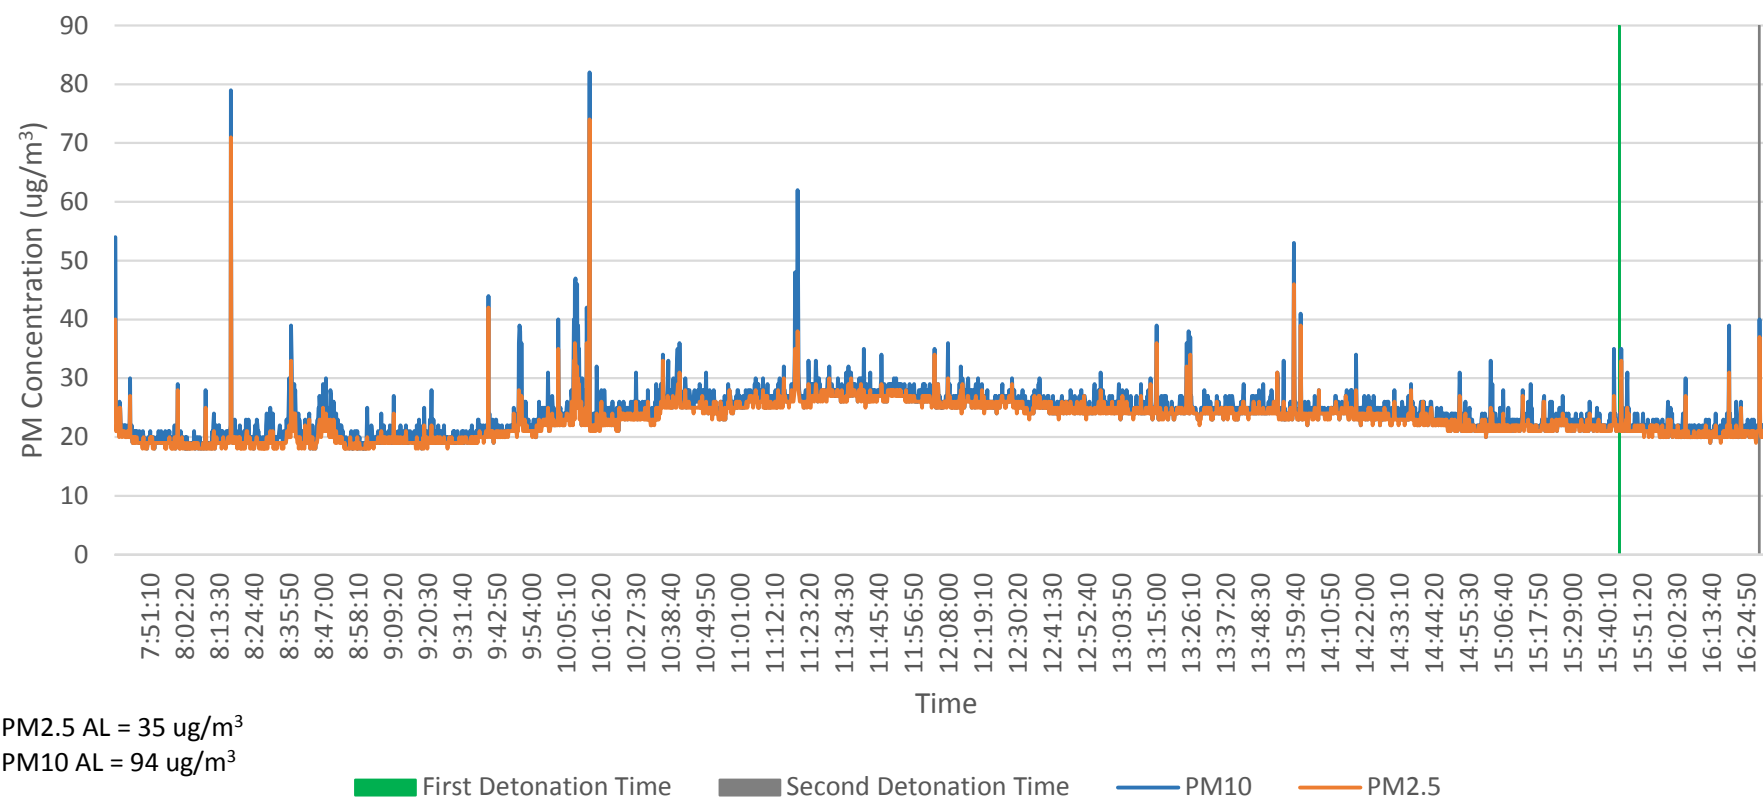

Figure 3-9. PM2.5 and PM10 on 8/10/17 at the Fence Line Boundary Monitoring Point - Lower Factory Pond
- Figure 3-9. PM2.5 and PM10 on 8/10/17 at the Fence Line Boundary Monitoring Point – Lower Factory Pond